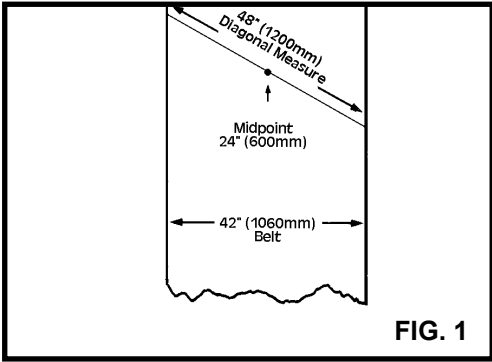

FIG. 1
- b. Mark the actual center points in belt width at intervals of 3 to 5 feet, for a distance of 15 to 20 feet back from the intended splice area (Fig. 1).